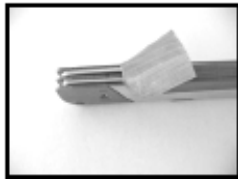

Figure 4.1.1
- Remove the seal bar and PTFE (fig. 4.1.1).